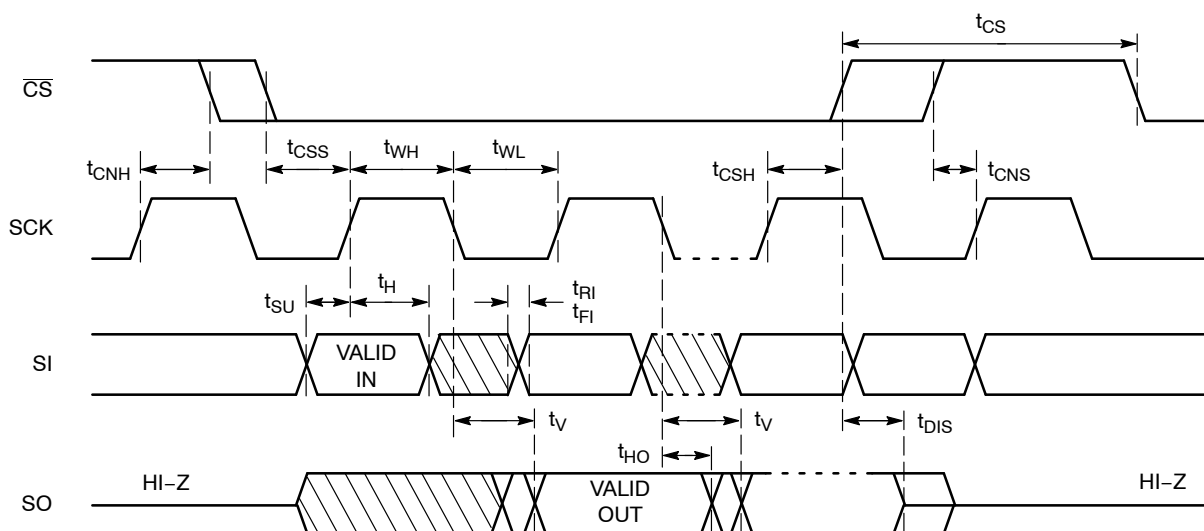

Figure 2. Synchronous Data Timing
9. **All Chip Select (CS) timing parameters are defined relative to the positive clock edge (Figure 2). t_{CSH} timing specification is valid for die revision C and higher. The die revision C is identified by letter "C" or a dedicated marking code on top of the package. For previous product revision (Rev. B) the t_{CSH} is defined relative to the negative clock edge.**
After a high to low transition on the $\overline{\text{CS}}$ input pin, the CAT25256 will accept any one of the six instruction op-codes listed in Table 10 and will ignore all other possible 8-bit combinations. The communication protocol follows the timing from Figure 2.